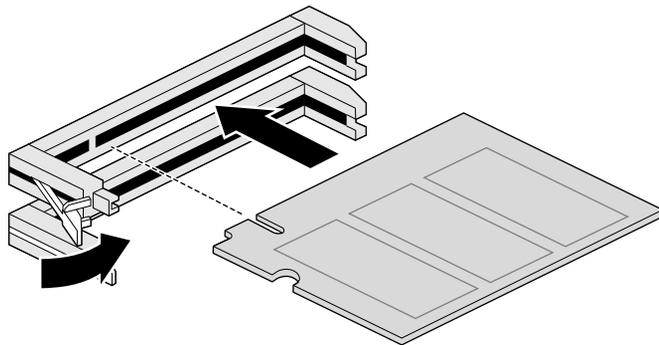

Figure 3-4 Installing a DIMM
- Carefully push the DIMM into the slot until the latch snaps up into place, as shown in Figure 3-4. If the latch doesn't snap up, you can manually press the latch up to lock it and the DIMM into place.